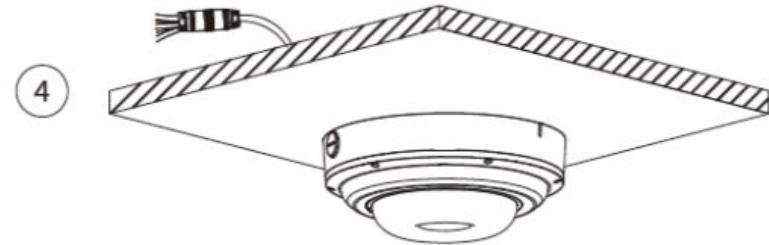

Figure 2-4
Step 4 Ensure all screws are mounted securely and the base is on the mounting plate. See Figure 2-4.